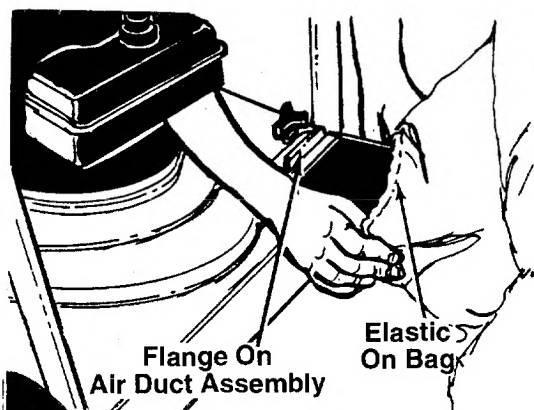

FIGURE 10.
3. Slip the elastic opening of the bag over the air duct assembly, making certain the elastic opening is secured behind the flanges on all four sides of the air duct. See figure 10.